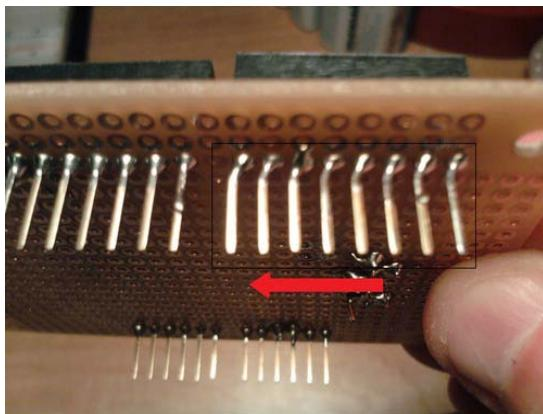

Figure 11-4. Make sure that the special 8-pin female stackable header is pointing toward the other 8-pin header.
■ **Note** Make sure that the special 8-pin female stackable header has its pins facing toward the other 8-pin stackable header; otherwise, the shield will not connect correctly to the Arduino. Figure 11-4 shows the directions the pins should face on the special 8-pin stackable header.